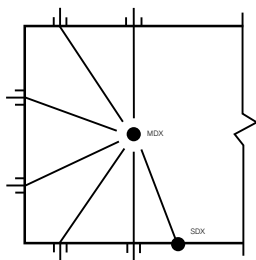

Fig. 2 - Center-Depth Pattern
- Put one wrap minimum of Teflon tape on the threads to make the nozzle threads not seize up over time, and thread the swing jet in the return fitting tight, using the swing jet installation and removal tool. It should be tight enough so it can not be turned by hand. Hand tighten only, NEVER USE A WRENCH DIRECTLY ON THE SWINGJET. ALWAYS REMOVE THE COVER AND USE THE TOOL (Fig 2 & 3) (AVAILABLE FROM PARAMOUNT 005-721-4541-00 included in the system) TO COVER THE SWINGJET RETAINER BEFORE USING A WRENCH TO REMOVE THE SWINGJET.
- Place the swing jet tool (Fig 2) provided with the unit (part # 005-721-4541-00) over the cover with the spring loaded key over the hole on the side of the cover of the SwingJet (Fig 5 & 6). Leaving the key in place, while pushing down on the button key rotate the cover counter clockwise until it stops. Do not remove the key. The extended nozzle should now be able to be rotated to the desired position. If the nozzle won't easily rotate remove the key and very slightly move the cover counter clock wise until the nozzle will rotate. Once the nozzle is set to the correct position, remove the key and rotate the cover clock wise to re-lock the cover in place.